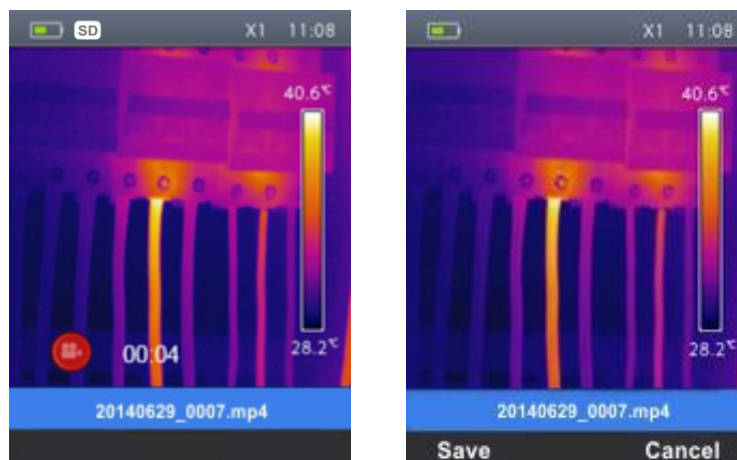

Fig. 30: Video recording
4. Press and hold the **T** (Trigger) key for some seconds to activate video recording. The message “YYYYMMDD _xxxx.mp4” appears in the status bar and the timer appears at the bottom of the display (see Fig. 30)